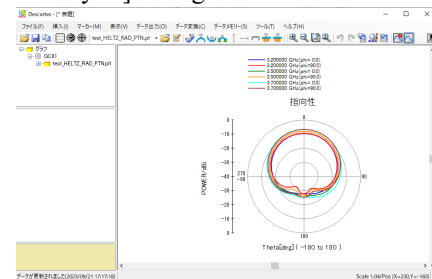

Fig.4 Directivity Graph Save in Result Folder
5. Open the file of the directivity graph with Femtet's graphic app as shown in Fig. 4.